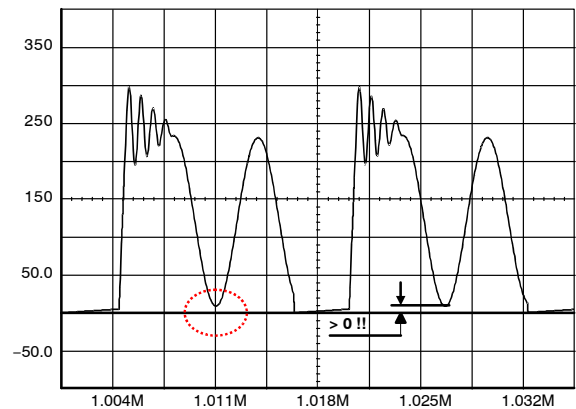

Figure 45. The Drain-Source Wave Shall Always be Positive
1. The lateral MOSFET body-diode shall never be forward biased, either during start-up (because of a large leakage inductance) or in normal operation as shown in Figure 45. This condition sets the maximum voltage that can be reflected during t_{off} . As a result, the Flyback voltage which is reflected on the drain at the switch opening cannot be larger than the input voltage. When selecting components, you thus must adopt a turn ratio which adheres to the following equation:
Figure 47a: the simple capacitor limits the voltage according to the lateral MOSFET body–diode shall never be forward biased, either during start-up (because of a large leakage inductance) or in normal operation as shown by Figure 45. This condition sets the maximum voltage that can be reflected during t_{off} . As a result, the flyback voltage which is reflected on the drain at the switch opening cannot be larger than the input voltage. When selecting components, you must adopt a turn ratio which adheres to the following equation eq. 5. This option is only valid for low power applications, e.g. below 5 W, otherwise chances exist to destroy the MOSFET. After evaluating the leakage inductance, you can compute C with (eq. 6). Typical values are between 100 pF and up to 470 pF. Large capacitors increase capacitive losses...